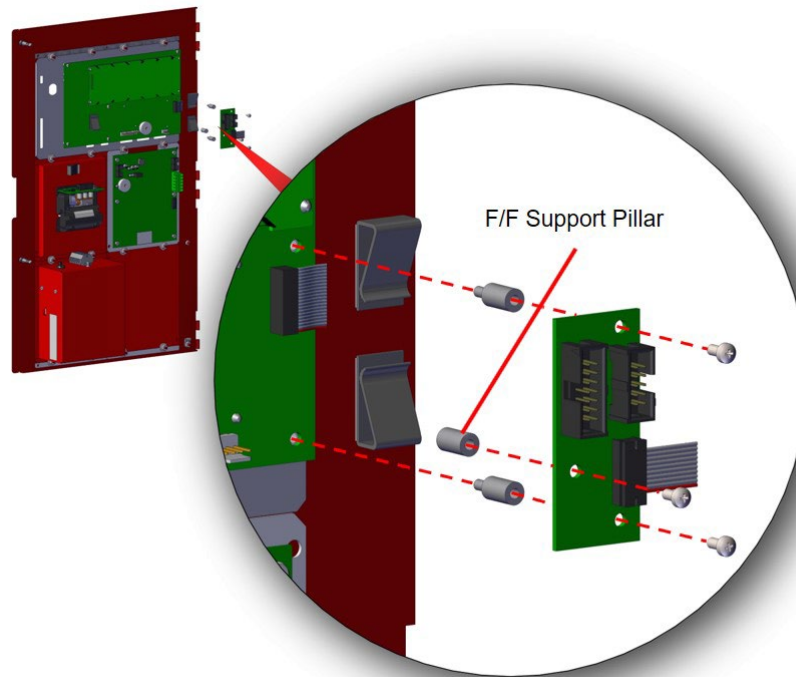

Figure 59 - NX10-EM-PRN Adapter Card Installation
1. Before you install the NX10-EM-PRN adapter card, fit the supplied female/female nylon standoff to the single mounting hole on the left side of the adapter card and secure with the supplied panhead screw (Figure 59).
2. On the NX10-ACS-DSP keyboard display (PCB), remove the two (2) right side bottom screws securing the PCB to its associated mounting plate.
3. With the NX10-ACS-DSP PCB screws removed, install the two male/female nylon standoffs supplied (Figure 59).
4. Mount the NX10-EM-PRN adapter card to the standoffs and secure it with the removed two (2) panhead screws (Figure 59).